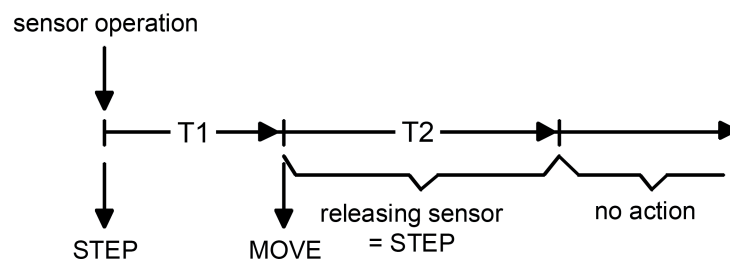

Figure 26: Telegram concept when a sensor surface of the channel function is touched
- Immediately on pressing a sensor surface the device transmits a short time telegram to the bus (figure 26), whereupon a running drive is stopped and the "time between short and long time operation" T1 is started internally. If the pressed sensor element is released again within T1, the device transmits no further telegram. This short time serves the purpose of stopping a continuous movement.